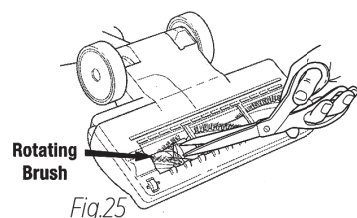

Fig.25
- 2 Inspect the opening underneath and the rotating brush. If a build-up of debris is present, remove it. Carefully cut anything wound around the rotating brush with scissors. Avoid damaging or cutting the bristles. (Fig. 25 )